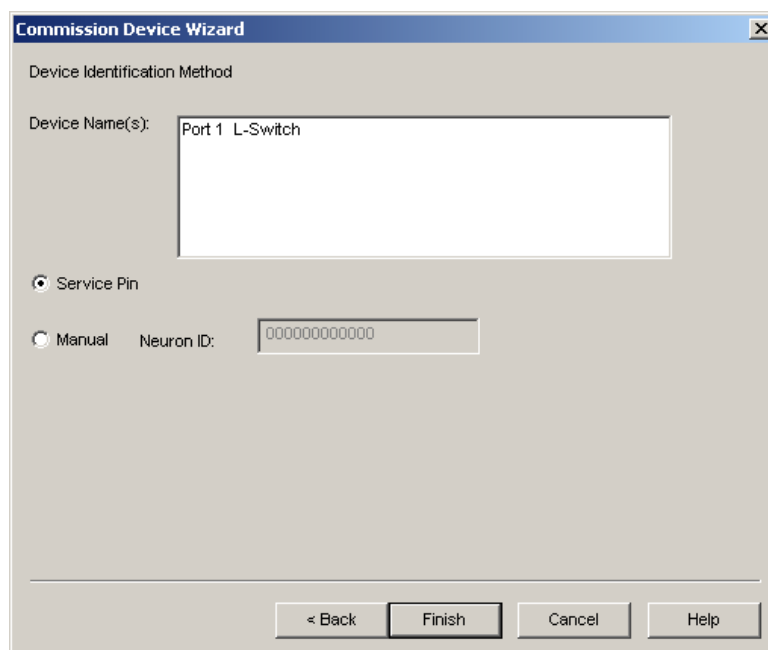

Figure 6: Either enter the Neuron ID manually or select Service Pin
7. In the next dialog either enter the Neuron ID manually or choose “Service Pin”. Select “Next>” (see Figure 6).